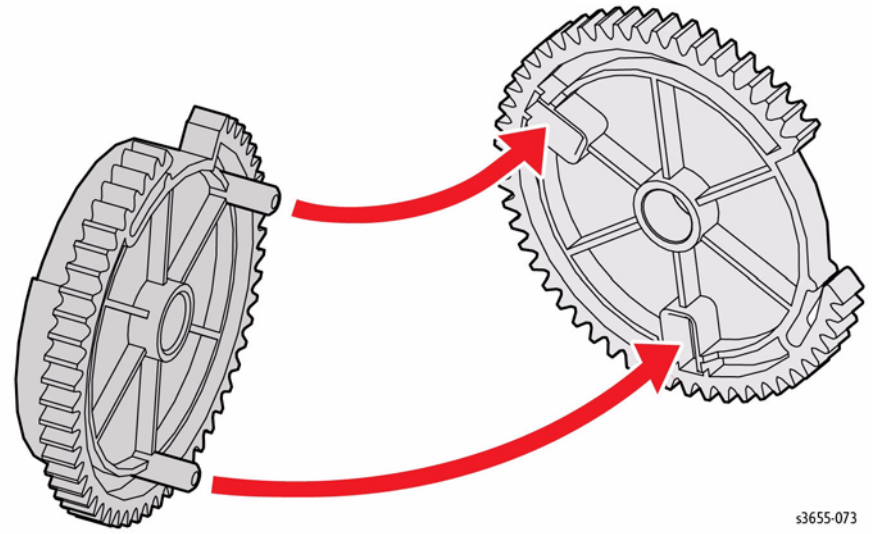

Figure 9 Assemble the Feed Gear
4. Refer to Figure 9 to assemble the feed gear.